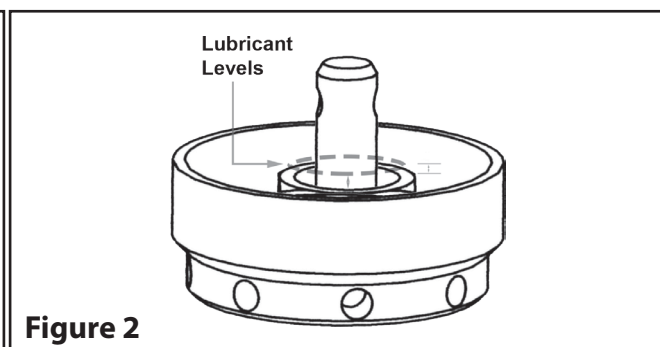

Figure 2
7. It is recommended that a lubricant (P/N: 91-36) compatible with the material being sprayed be used in the pump lubricant cup. This will increase pump seal life and minimize down time. See Figure 2 on page 2 for liquid levels.